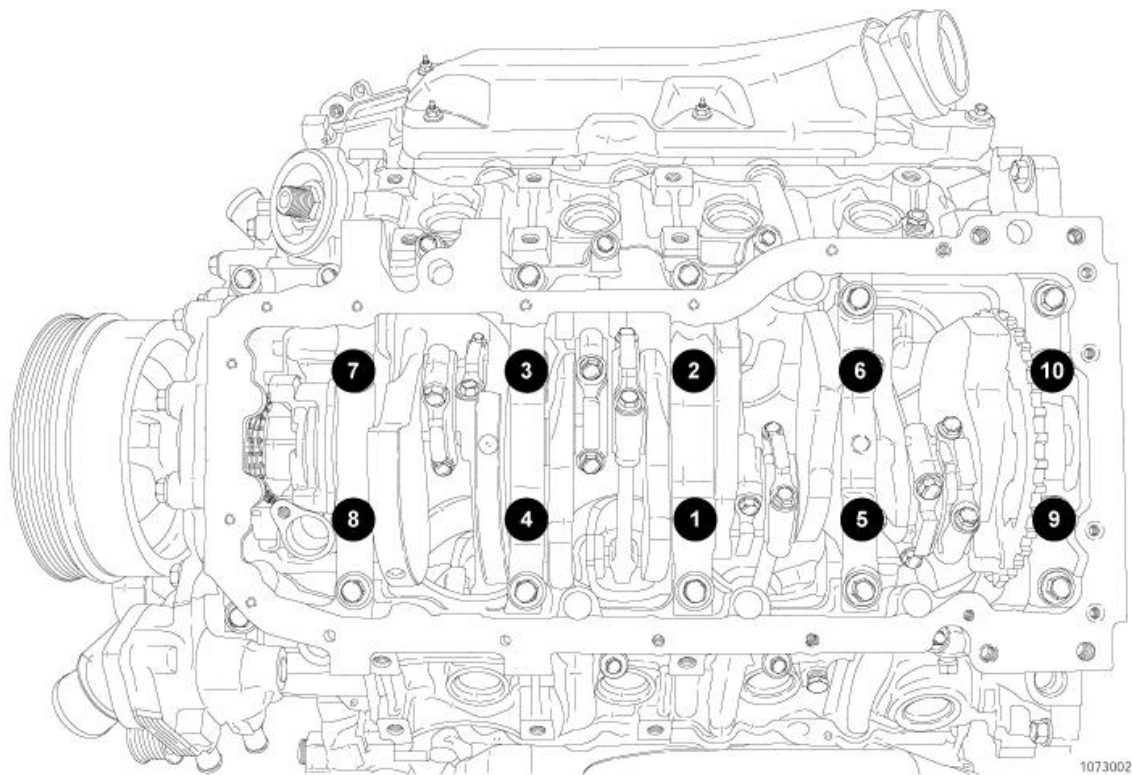

Fig. 148: Tightening Bedplate Bolts (3 Of 4)
9. Rotate bolts 90° in the sequence shown in illustration. See **Fig. 148**.